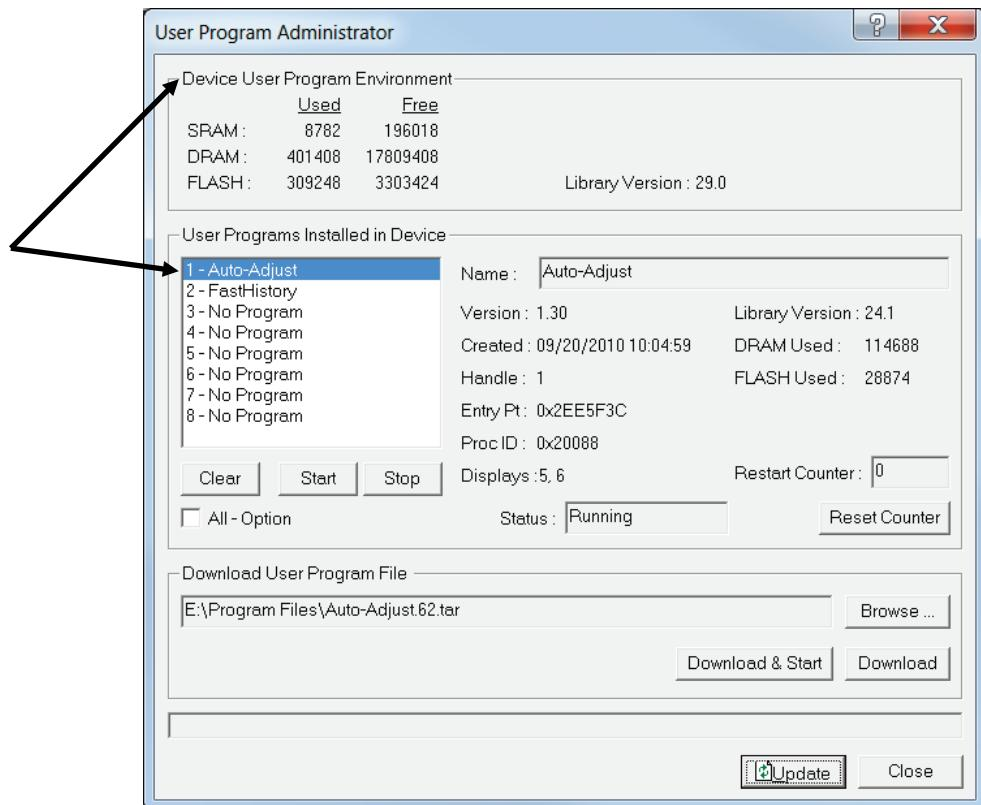

Figure 13. User Program Administrator
- 10.** Click **OK**. The User Program Administrator screen displays (see *Figure 13*). Note that: